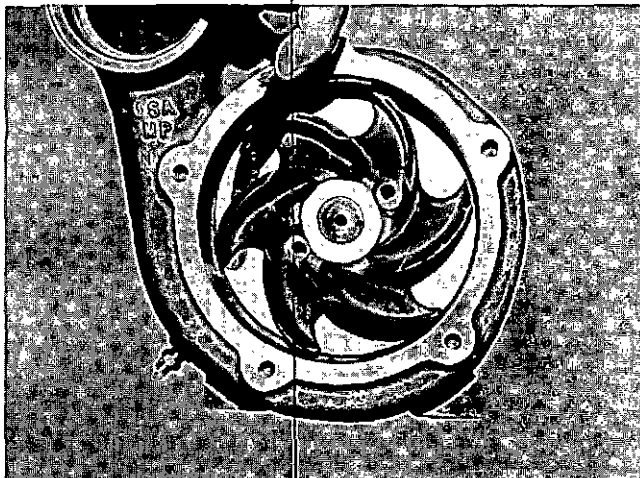

Fig. 8-1-5, V40812. Checking impeller clearance
12. Press impeller (10) onto shaft until there is 0.020 to 0.031 inch [0.5080 to 0.7874 mm] clearance between back of impeller and water pump body (6).
13. Install water pump cover (1) and new gasket (2) to water pump body (6). Check clearance between impeller vanes and cover Fig. 8-1-5; it should be 0.020 to 0.040 inch [0.5080 to 1.0160 mm].